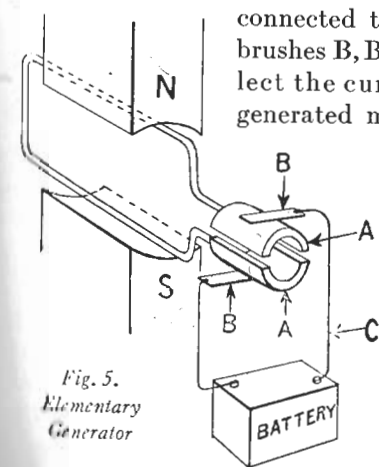

Fig. 5.
Figure 5 shows an elementary generator in which a loop of wire is revolved between the poles of a magnet. In order to carry the current that is generated in the loop of wire out into the external circuit (C) a commutator A, A is connected to the ends of the wire. Two brushes B, B rub on this commutator to collect the current. The electrical pressure generated may be increased either by increasing the speed of rotation or by increasing the number of turns in the loop of wire.